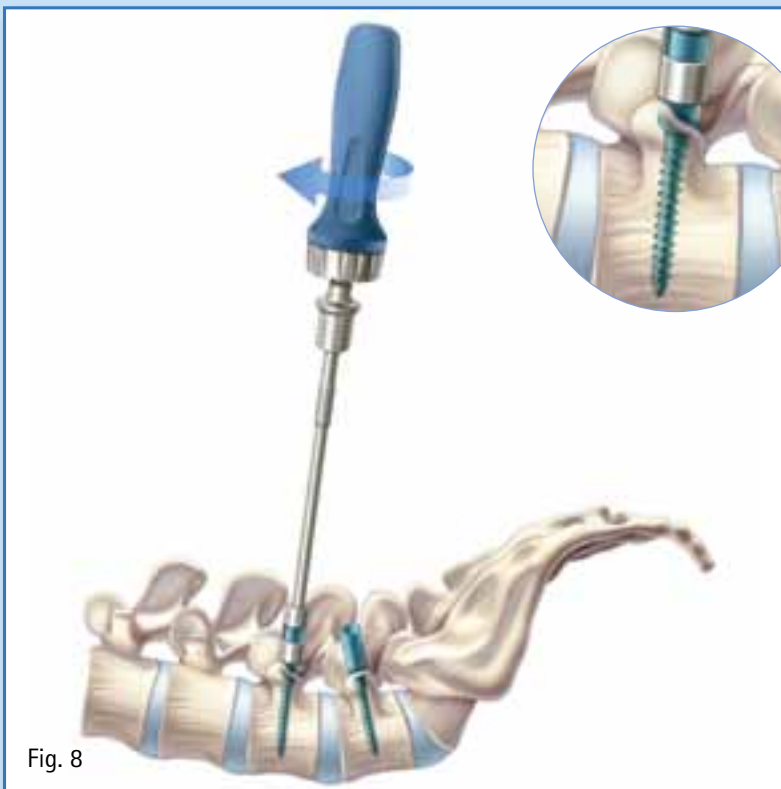

Fig. 8
- Insert and fully seat the rounded tip of the monoaxial screwdriver into the slot of the monoaxial screw then thread the screw into the prepared pedicle. (Fig. 8)